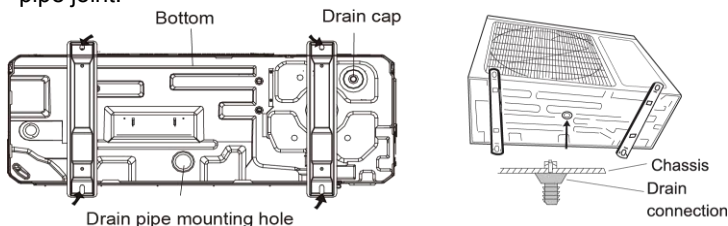

Fig. 4.8
4.2.2 Condensate Drainage of the Outdoor Unit (Only for the heat pump unit) (Fig. 4.8)